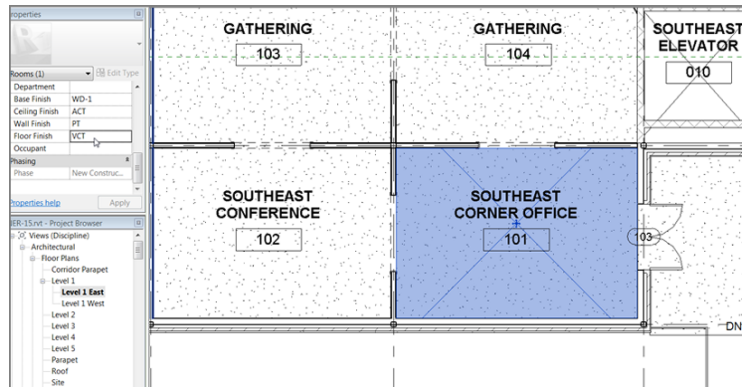

FIGURE 15.7: Adding values to the identity data
3. Pick the room, as shown in Figure 15.7.